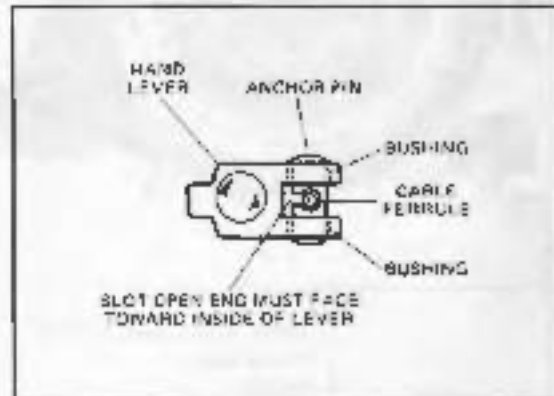

Figure 4-1. Clutch Hand Lever Cable
To disassemble cable from hand lever or anchor pin, turn sleeve into bracket (3) and remove cable from side slot as shown in Figure 4-1. When reassembling cable ferrule in hand lever anchor pin with side slot, be sure slot is toward inside as shown.